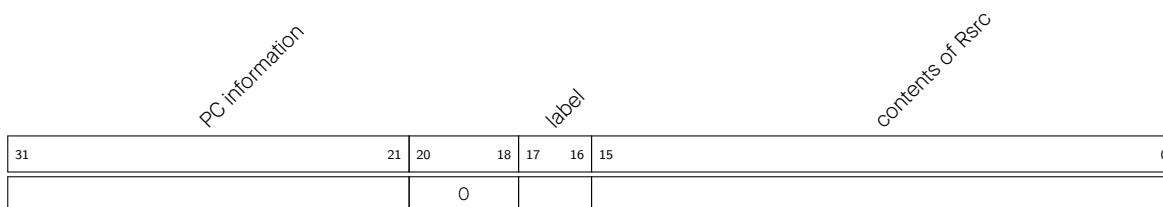

Figure 2-13. Data Structure of RTC_SLOW_MEM[Rdst + Offset]
- Bits** **Description** - See Figure 2-13